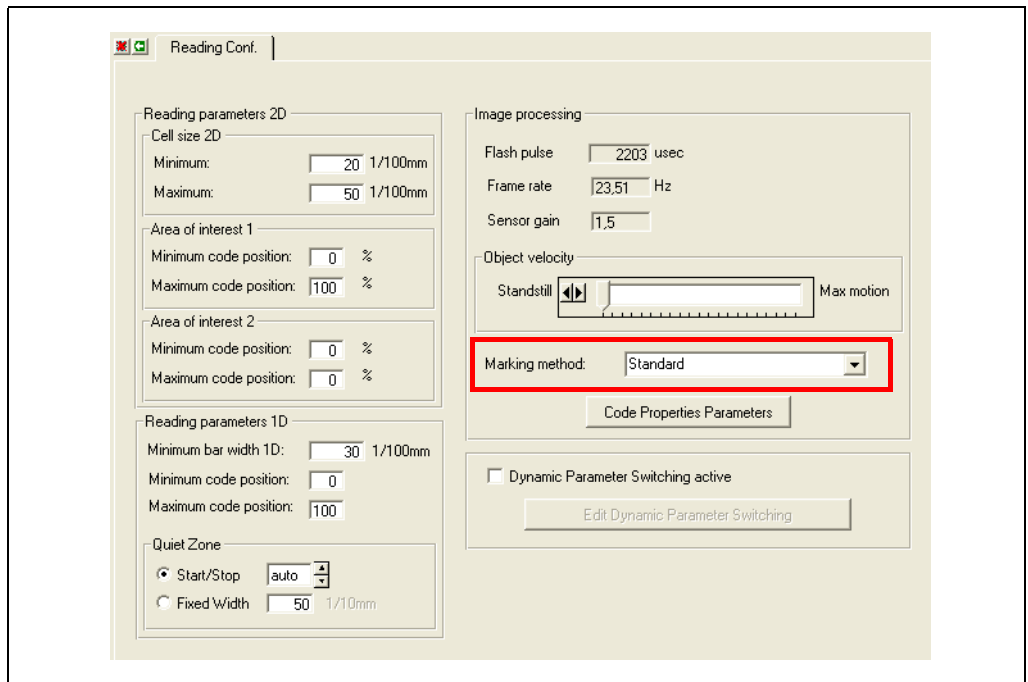

Fig. 10-1: CLV-Setup: "Reading Configuration" tab
1. Select the READING CONFIGURATION tab (*Fig. 10-1, Page 129*).